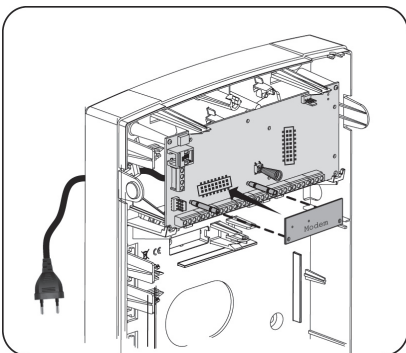

Figure 2-12 Placing the PSTN modem module
2. Place the optional Fast communication modem (mounted on its standoffs) as illustrated in Figure 2-12.